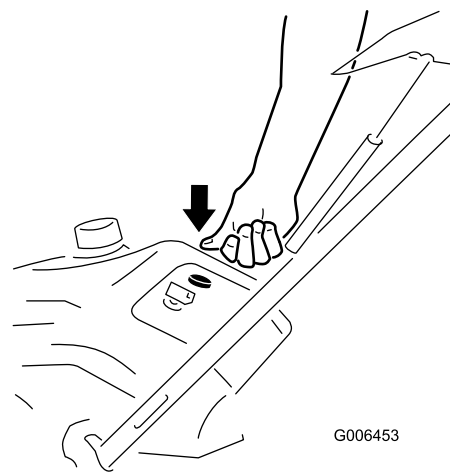

Figure 14
3. Firmly push in the primer 2 times with your thumb, holding the primer in a for a second before releasing it each time (Figure 14).